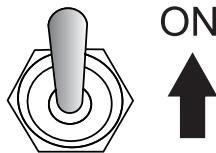

Figure 35. Idle Control switch (ON)
3. Place idle control switch switch (Figure 35) in the **ON** position.